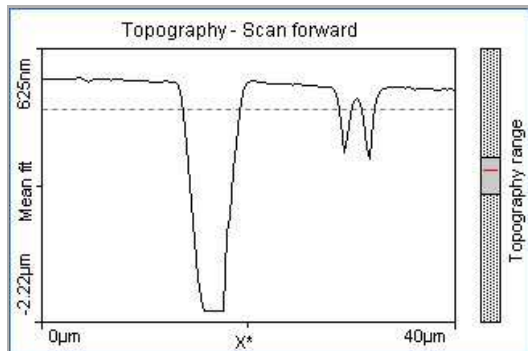

Figure 24: Optimized Gain. Optimized gain setting for SCA chip structure
- If you have not already done so, make sure your gains are set to levels that produce reasonable images. The line trace in *Figure 24: Optimized Gain* represents well optimized gain settings; the tip is accurately tracking the topography of the SCA sample.